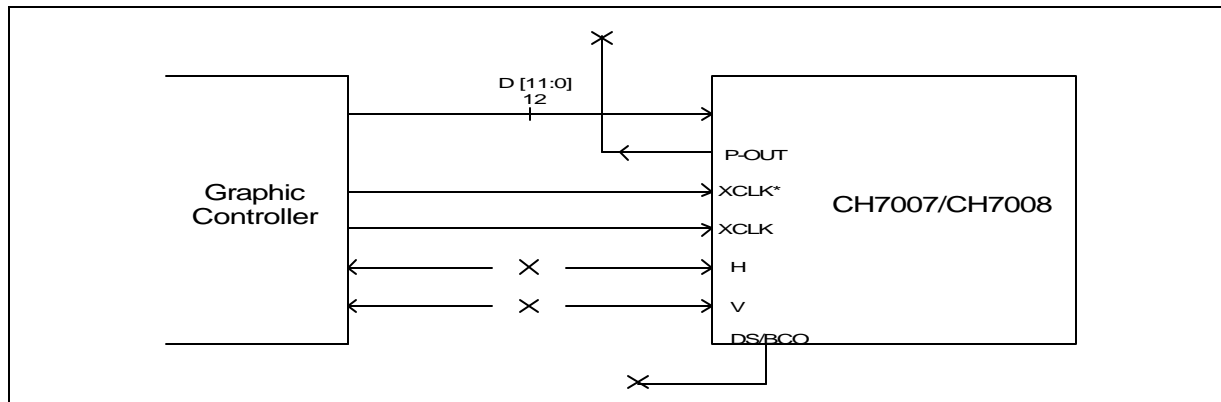

Figure 7: Embedded Sync Mode
• Embedded Sync Mode (Figure 7)